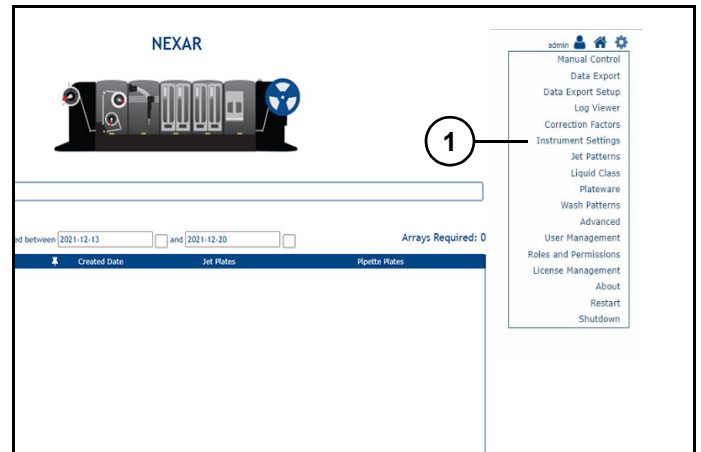

Figure 18
Instrument Settings (1) (Figure 18): Opens instrument settings page.